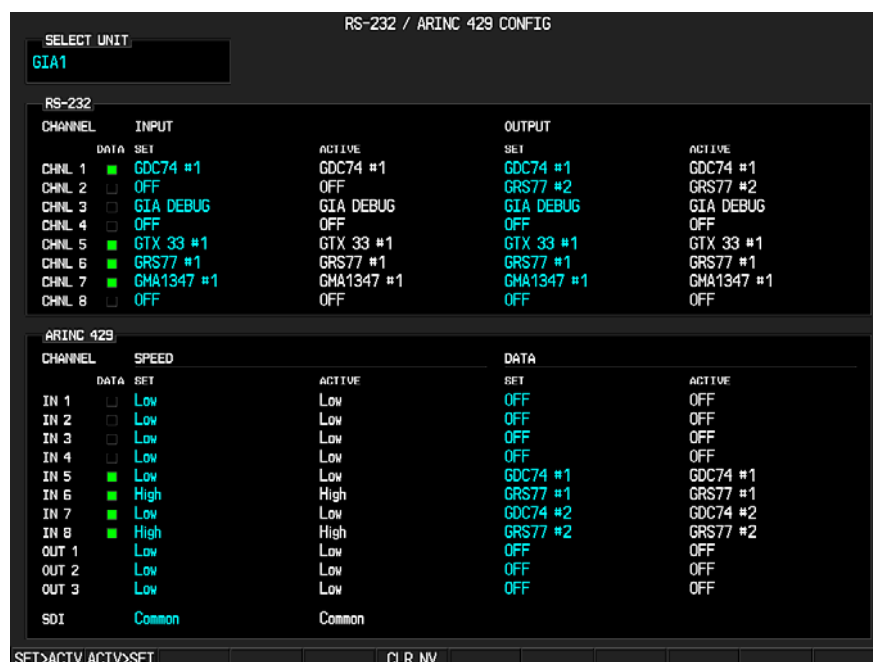

Figure 8-2. CAN/RS-485 Config Page (GIA1)
11. Make sure all DATA indicators for configured channels are GREEN which indicates the channels are receiving data as shown in Figure 8-2.